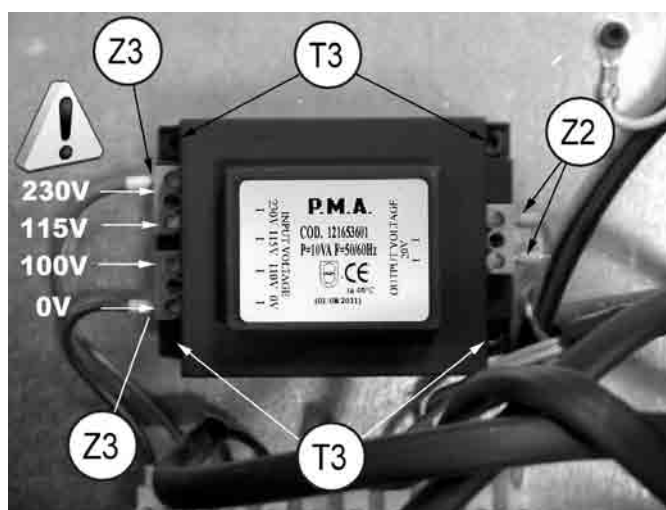

Fig. 76
- 3) Loosen the 2 screws (Z2) fixing the low voltage (transparent) cables (20V) (Fig. 76).
Take care that the position is correct according to the voltage (Fig. 76).